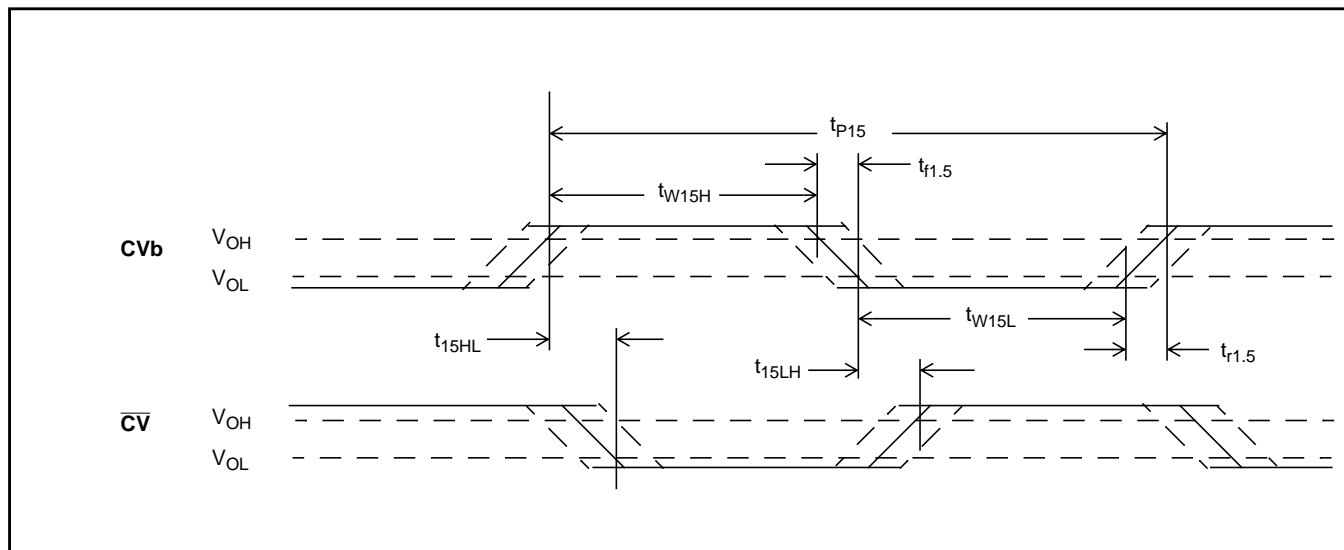

Figure 14 - Timing Information for DPLL #1 in NORMAL Mode
## AC Electrical Characteristics† - Voltages are with respect to ground ( $V_{SS}$ ) unless otherwise stated. (Refer to Figure 14)
**AC Electrical Characteristics†** - Voltages are with respect to ground ( $V_{SS}$ ) unless otherwise stated. (Refer to Figure 14)